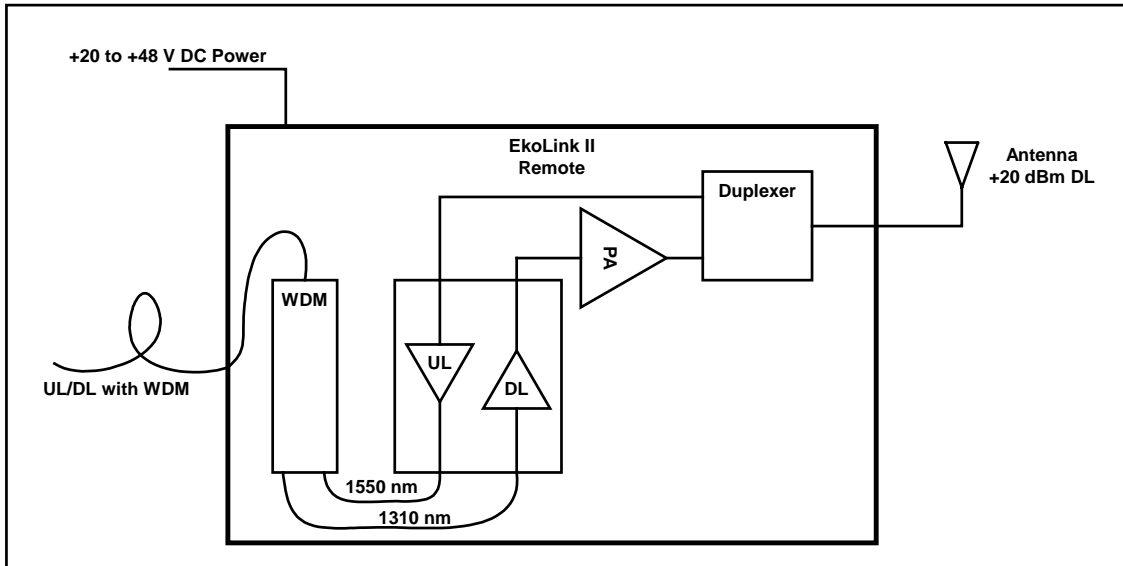

Figure 7: EkoLink II Remote Unit Block Diagram.
- Figure 7: EkoLink II Remote Unit Block Diagram
The remote is designed to convert the Fiber Optic Signals to/from RF and transmit those signals to/from the Hub. Figure 7 is a functional diagram of the EkoLink II remote.